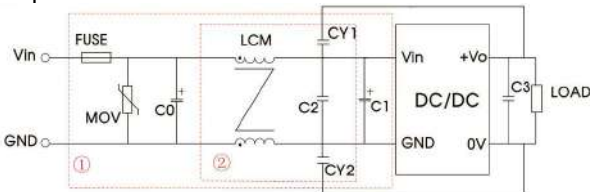

Fig. 6
Notes: We use Part ① in Fig. 6 for immunity and part ② for emissions test. Selecting based on needs.